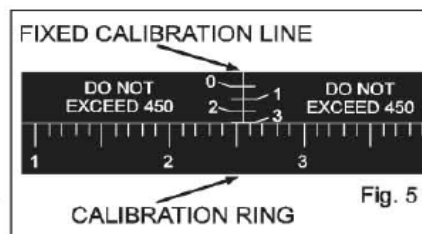

Fig. 5
12. PUMP STROKE ADJUSTMENT. The knurled ADJUSTMENT NUT on the pump head controls stroke to stroke piston displacement. Turning it clockwise to zero stops displacement. Turning the ADJUSTMENT NUT counterclockwise four and one half turns from zero (450 on scale) (fig. 5) causes maximum pump reciprocation, e.g., 50 μ l per stroke for the H-0 or 100 μ l for the H-1 unit. Thus each 1-1/8 turn (112.5 on scale) of the ADJUSTMENT NUT represents 25 of maximum (12.5 μ l for H-0 and 25 μ l for H-1) and each graduation on the ring represents an adjustment of 1/450th of maximum (0.111 μ l for H-0, 0.222 μ l for H-1).